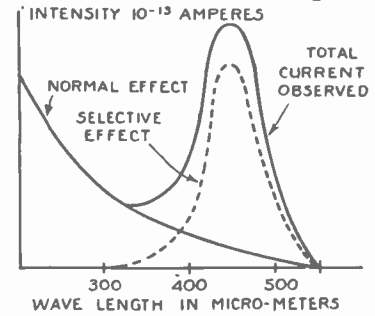

FIG. 3
FIG. 3. Diagram of the transmitting apparatus. (A B) optical lenses; (C) mirror of the oscillograph; (D) Diaphragm; (SE) selenium cell; (F1) connecting rod pivoted between two screws; (F2) eccentric of the synchronous motor (G); (K1, K2) rotary circuit breaker.